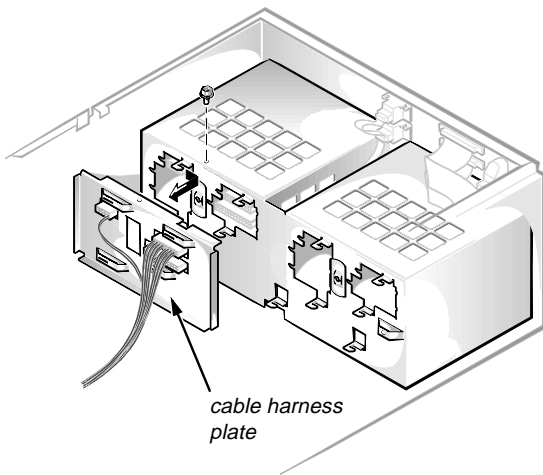

Figure B-13. Removing the Cable Harness Plate
7. **Remove the cable harness plate (see Figure B-13).**